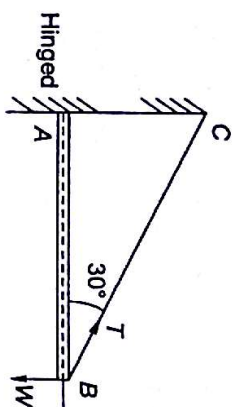

Fig. 3.63
3.6 A bar AB hinged at A, carries a load W at its end B. It is held in position by a string as shown in Fig. 3.63. Angle $ABC = 30^\circ$. What is tension in string?